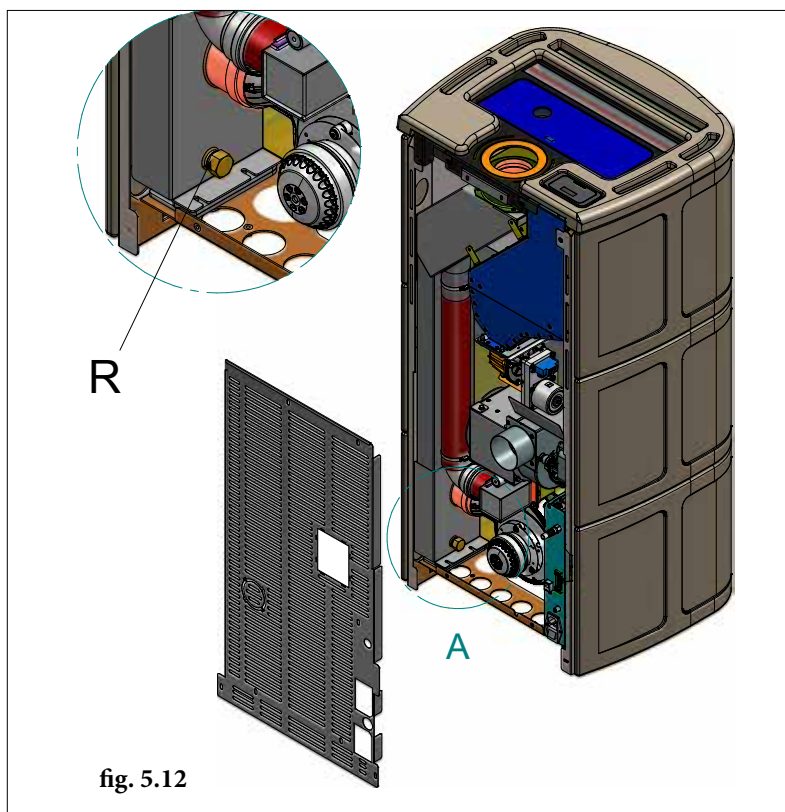

fig. 5.12
5.6.2 As an additional safety measure, there is a threaded fitting with locking cap "R" designed to connect the condensate drain pipe, if an unlikely event may require such measure (Fig. 5.12).